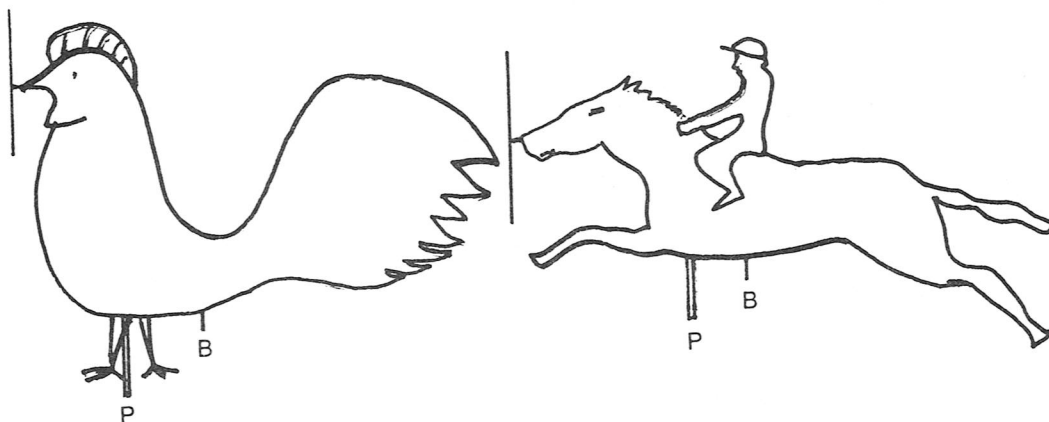

FIG. 6.1
propeller attached. If, however, the propeller is heavy and may be a weight factor, the propeller should be attached while determining the P position. Find the balance point (B) and mark it. Move forward on the vane and mark a point about halfway between the front end and B (Fig. 6.1). Ordinarily this could become the pivot point P. But some designs are back-heavy to begin with and P need only be a quarter of the distance forward to make the vane swing without putting a strain on the socket. If, after putting in a pivot socket, you should change your mind about the location, simply drill another socket hole in the new location.